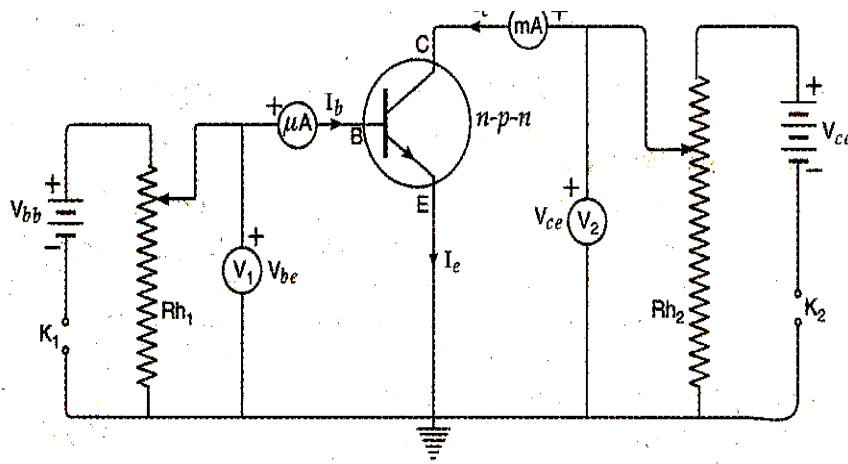

Fig. 2.5 Circuit diagram for CE characteristics of n-p-n transistor
- ~~Common emitter characteristics of a transistor are graphs that are obtained between voltages and current, when emitter is earthed, base is used as input terminal and collector as the output terminal. Fig. 2.5 shows the experimental arrangement to study the common emitter characteristics of an n-p-n transistor.~~